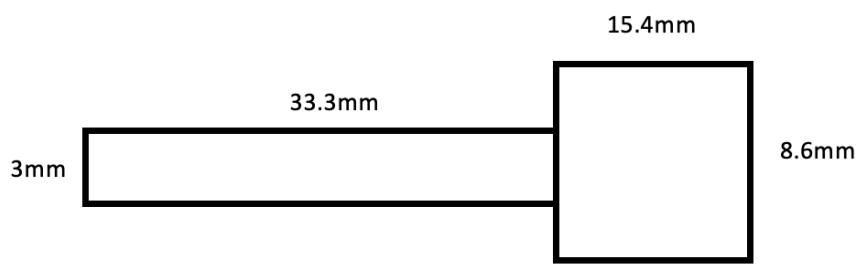

Figure 2 - Swab geometry simplification
b) Estimate the clamping force for a single part. Ignore the teeth and just consider the simplified geometry of the cap and the main swab as shown in Figure 2. The pressure drop in the part is 70 MPa. What is the maximum number of parts that you could produce in a single mold with the BOY XXS that has 80kN maximum clamping force?